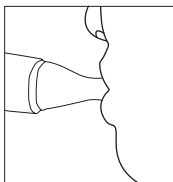

Fig. 10
- Use the mouthpiece: bring the mouthpiece into mouth and close lips slightly to facilitate nebulized liquid flowing to the lesion position smoothly (see Fig. 10).